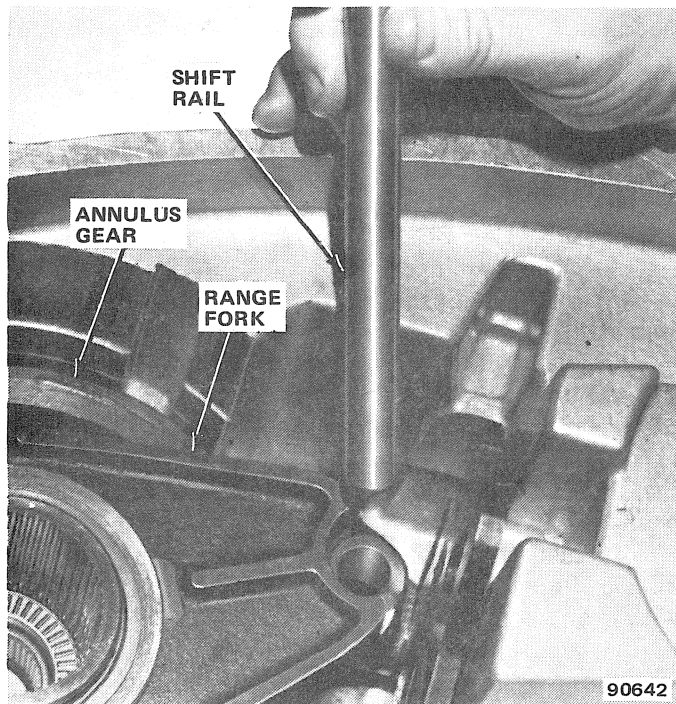

Fig. 2D-38 Annulus Gear and Shift Rail Installation
(11) Install annulus gear thrust washer and retaining snap ring (fig. 2D-20).
(12) Align shift rail bores in case and range fork and install shift rail (2D-38).